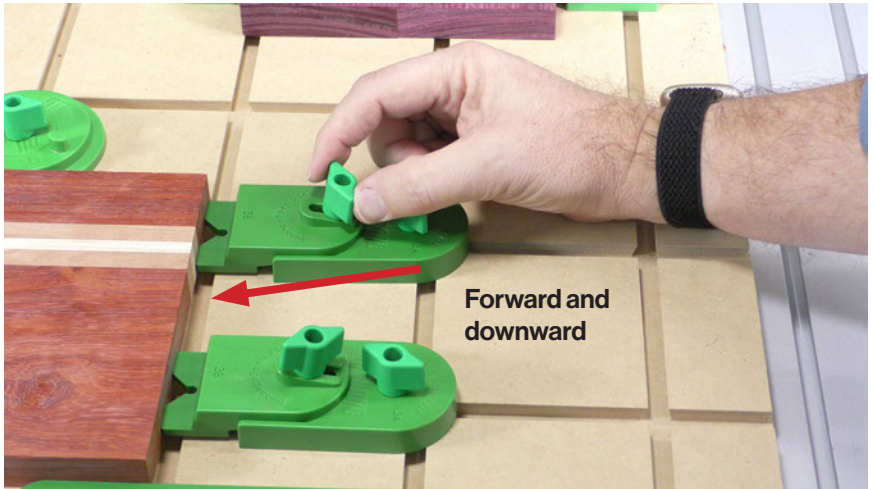

Fig 5a - Ramp Clamp Use
- 5.2.** Microjig's Ramp Clamps use our Dovetail Hardware to make all setup and adjustments fast and easy with no tools needed. (Fig 5a)